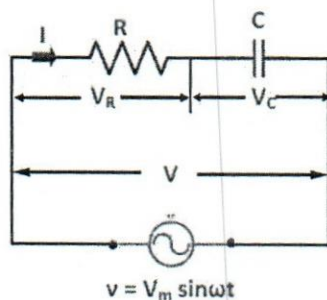

Figure 3
- a. i. Draw the phasor diagram for Voltage V , V_R , V_C and I shown in figure 3. (04 Marks)